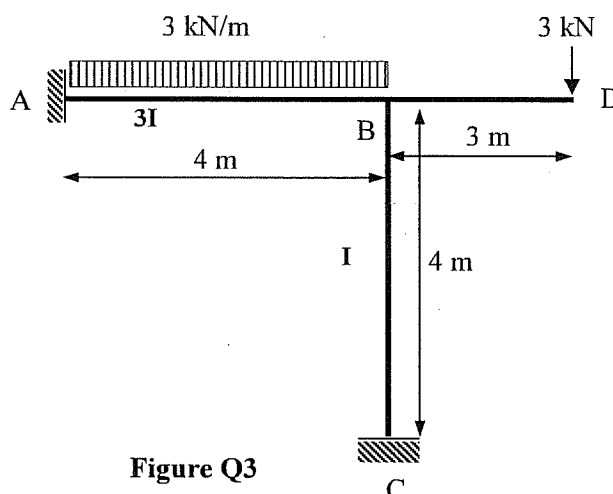

Figure Q3
- (b) A non-sway frame is shown in Figure Q3. Analyse the structure using Moment Distribution Method and draw the bending moment diagram. Second moments of area of members are shown close to respective members in the figure.